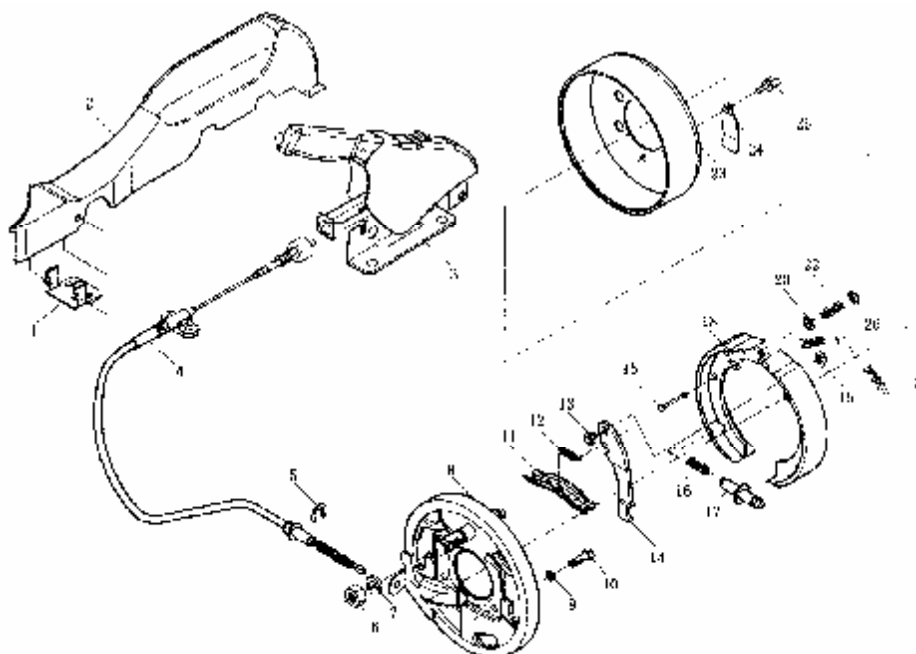

Figure 7-8-8 Parking brake and operating devices
3. Parking brake system (figure 7-8-8)